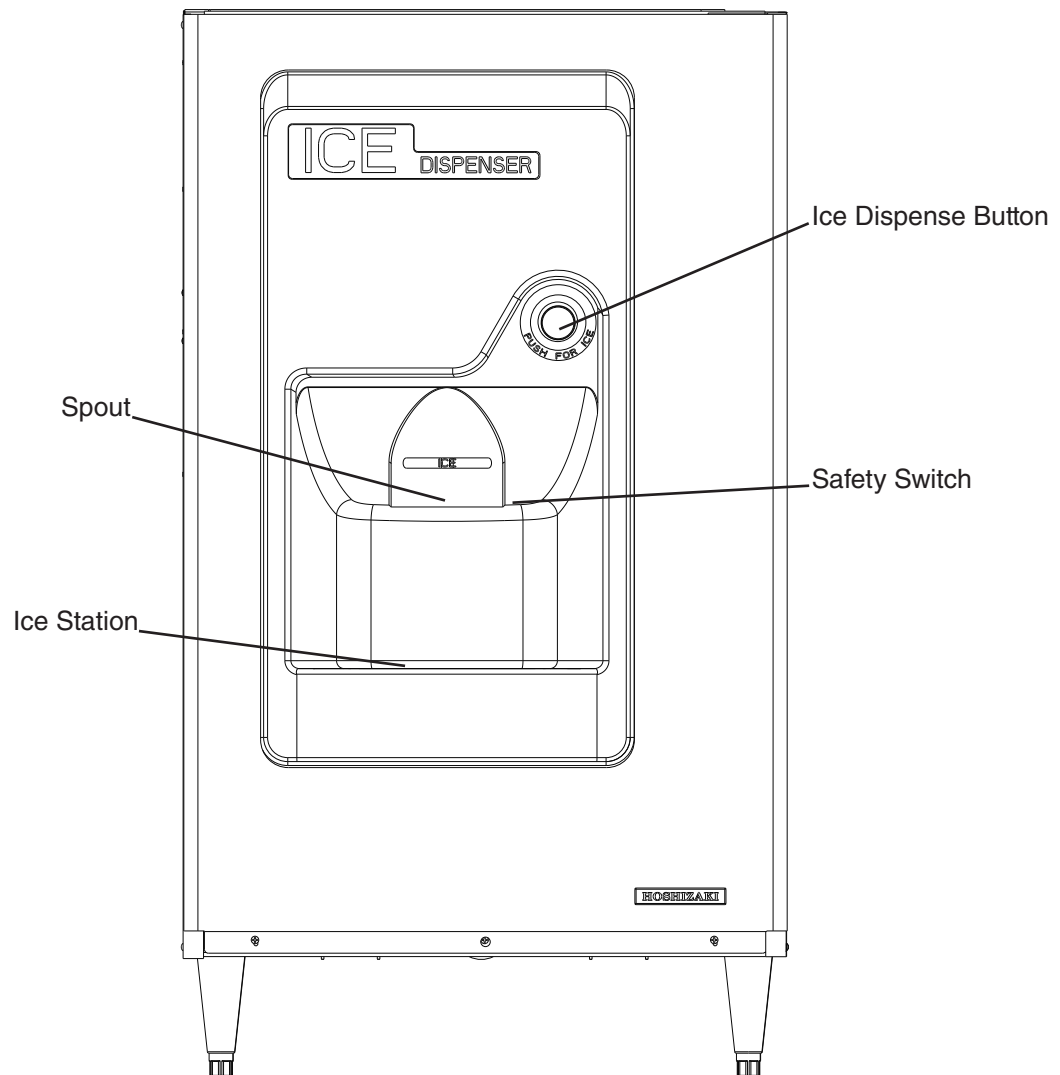

Fig. 9
- 2) Place a container under the spout, then press the ice dispense button. See Fig. 9. Confirm that ice is dispensing properly.